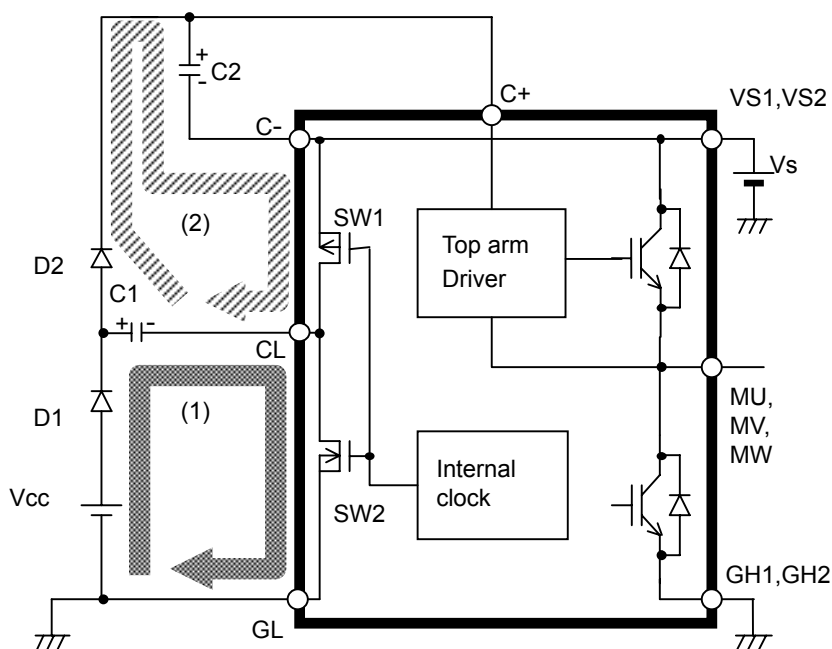

Fig. 5-7. Charge pump circuit
(1) Description of operation
- Fig. 5-7 shows a block diagram of a charge pump circuit. The SW1 and SW2 repeat turning on and off alternatively, synchronously with the internal clock.
- When the SW1 is off and the SW2 is on, the CL pin has a potential of 0V. Through the passage (1), charge the capacitor C1.
- Next, the SW1 is turned on and the SW2 is turned off, and the CL pin rises in potential to the VS level. Through the passage (2), the charge of the capacitor C1 is pumped up to the capacitor C2.